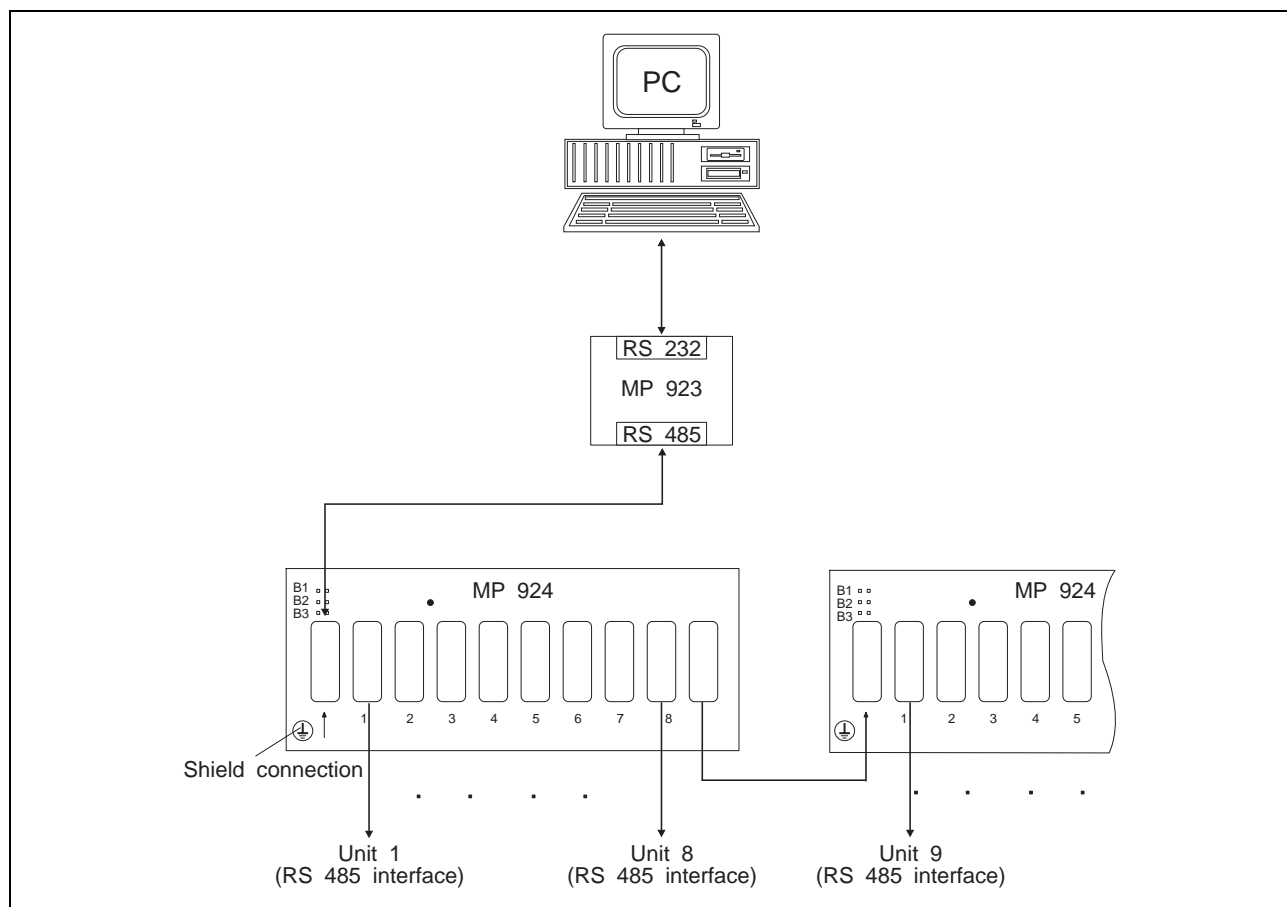

Fig. 6-7 MP 924 interface distributor setup
1. Wire the MP 924 interface distributor in accordance with fig. 6-7.
2. If several MP 924 interface distributors are used, combine them as illustrated in fig. 6-7.